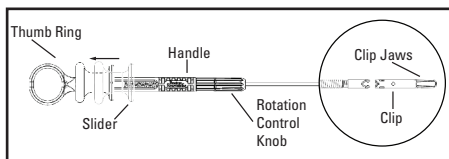

Figure 5. Resolution 360 Clip Permanently Deployed
- Option 2: The Resolution 360 Clip can be permanently deployed. To permanently deploy the Resolution 360 Clip, continue moving the slider proximally beyond the tactile resistance point, at which point a first click may be heard or felt. Continue moving the slider proximally until a second tactile resistance point and/or click is heard or felt. Continue moving the slider proximally until it reaches the thumb ring, as shown in Figure 5.